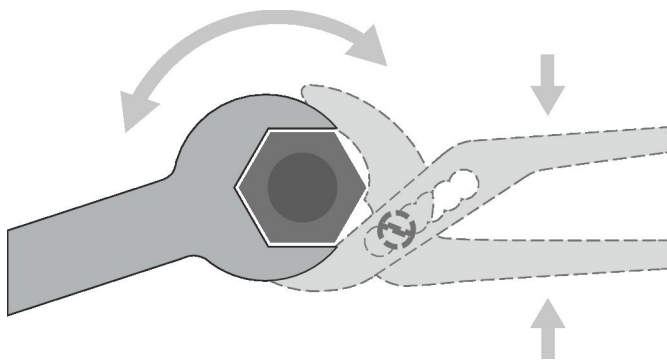

Fig. 29: Using water pump pliers to counter the tightening force
1. ▶ Hold the threaded pipe tail of the heat exchanger with water pump pliers (Fig. 29 /2).
2. ▶ Hold the threaded pipe tail with the pliers while you use a spanner (hexagonal profile, Fig. 29 /1) to connect the heat exchanger to the pipework (pipework by others).